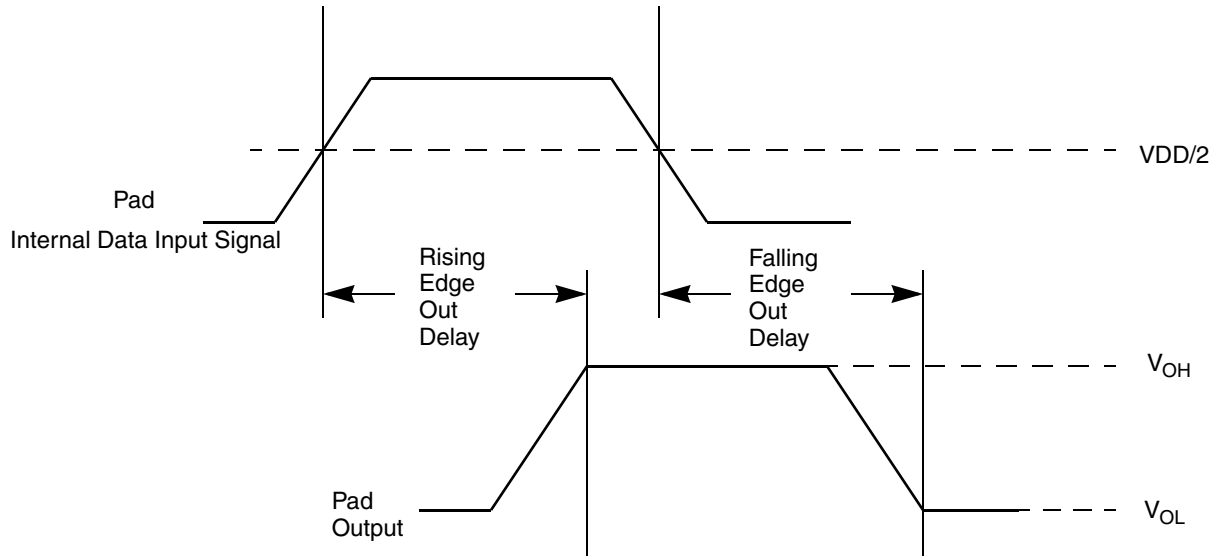

Figure 3. Pad Output Delay
³ Out delay is shown in Figure 3. Add a maximum of one system clock to the output delay for delay with respect to system clock.
- ⁴ Out delay is shown in Figure 3. Add a maximum of one system clock to the output delay for delay with respect to system clock.